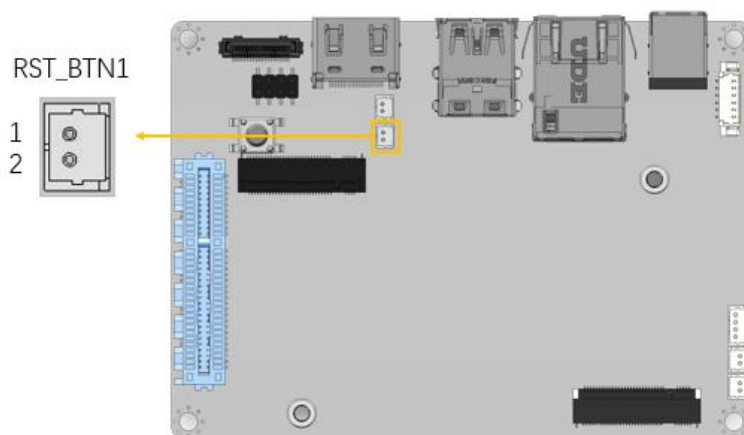

Figure 3-12: Reset Button Connector Location
- CN Location:** See **Figure 3-12**